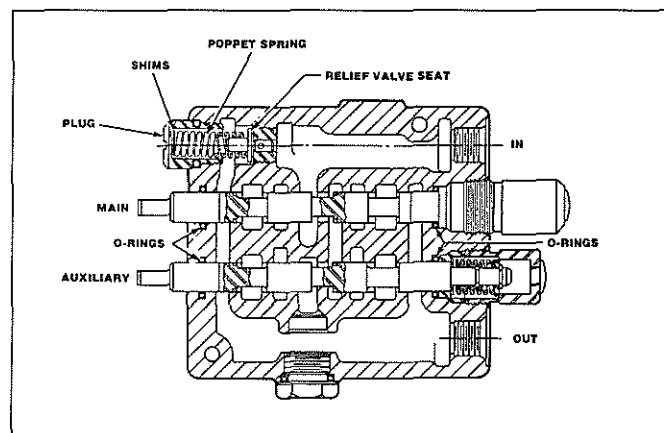

FIGURE 6-8A
8. Install relief valve seat, poppet spring, shims and plug, Fig. 6-8A.